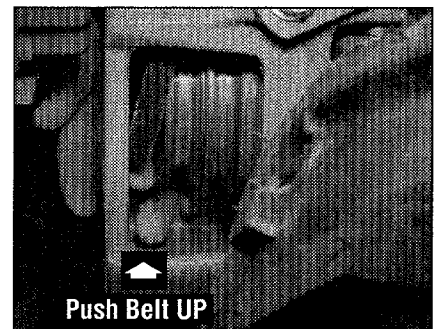

Figure 5-18: Push belt upward to create slack.
4. Push the belt upward to create slack in the belt (Figure 5-18).
3. Push belt forward then down until it is looped over the lower pulley (Figure 5-18). Do not yet seat it in either of the lower pulley's grooves.